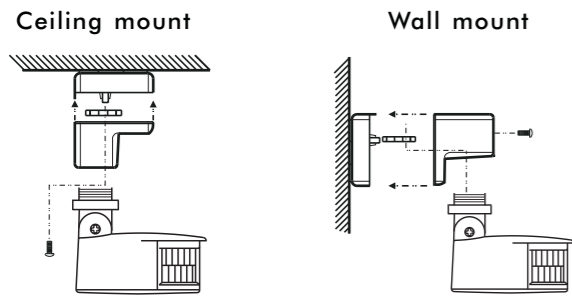

FIG. 8
- 3.4.6 Assemble base with sensor cover, then fix with 2 screws (See FIG.8).